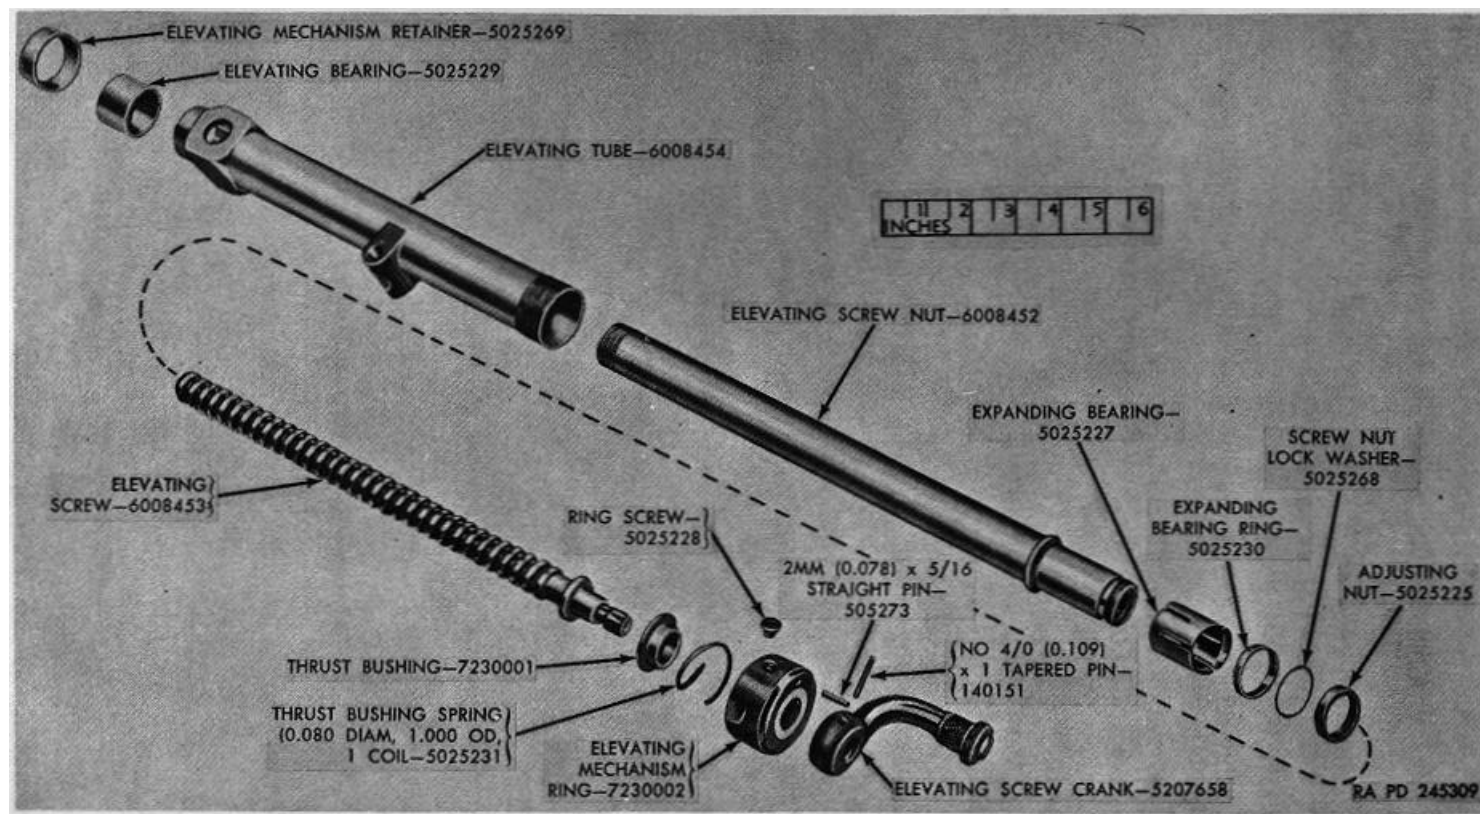

Figure 24. Elevating mechanism assembly-exploded view.
- c. Remove ring screw from the elevating mechanism ring (fig. 24). Back off the ring, turn the elevating screw crank, and remove the elevating screw from the elevating screwnut (fig. 24).
- d. Drive the tapered pin out of the elevating screw crank (fig. 24); unscrew the crank. Drive out straight pin and remove the elevating mechanism ring, thrust bushing, and thrust bushing spring from the elevating screw (fig. 24).
- e. Back off the elevating mechanism retainer and pull the elevating tube off the elevating screwnut (fig. 24).
- f. Back off the adjusting nut and remove the screwnut lockwasher, expanding bearing ring, and expanding bearing from the elevating screwnut (fig. 24).
- g. The elevating mechanism retainer and the elevating bearing will slide off the elevating screwnut (fig. 24). The bearing may have to be tapped off lightly with a soft metal hammer or a wooden block and hammer.
- a.* Slip expanding bearing on elevating screwnut and follow with expanding bearing ring (tapered end leading) and screwnut lockwasher (fig. 24) (stud on washer should lead and fit into recess in nut). Screw on adjusting nut and peen lockwasher over the flat of nut (fig. 24).
- b.* Secure elevating screw in vise with soft jaws. Place thrust bushing (flanged end leading) over elevating screw and follow with thrust bushing spring (0.080 diam. 1.000 od, 1 coil) (fig. 24). Place elevating mechanism ring over elevating screw (fig. 24); press ring down against the spring, making certain the 2-mm (0.078) x 5/16 straight pin in ring fits in the cut in the bushing. Hold ring in this position and screw elevating screw crank (fig. 24) on the elevating screw until holes in the crank and screw align.
- c.* Drive in No. 4/0 (0.109) x 1 tapered pin to secure elevating screw crank to elevating screw (fig. 24).
d. Screw elevating screw into elevating screwnut (fig. 24) as far as it will go. Insert the unit into elevating tube (through bottom). Screw tube into elevating mechanism ring until screw holes align and screw in ring screw (fig. 24).
e. Place elevating bearing in elevating tube (fig. 24) over elevating screwnut. Screw elevating mechanism retainer on elevating tube (fig. 24).